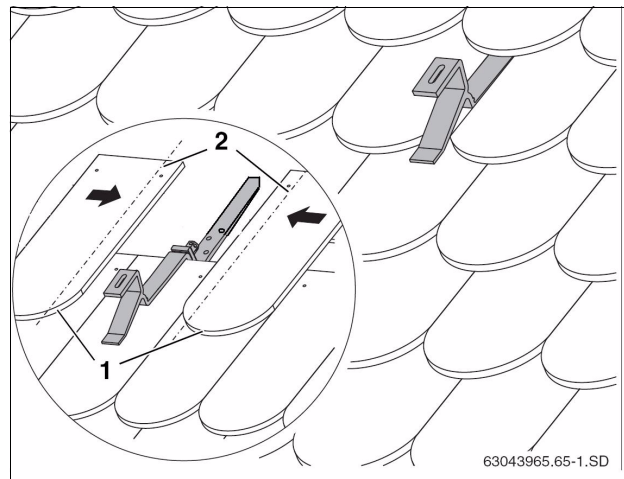

Fig. 18 Tiles/shingles may have to be trimmed to size
- Using suitable screws, attach the upper part of the roof hook (Fig. 18) through the sheathing to the building substructure.
- If necessary cut adjacent shingles/tiles (Fig. 18, [1]) to size (dashed line, Fig. 18, [2]).